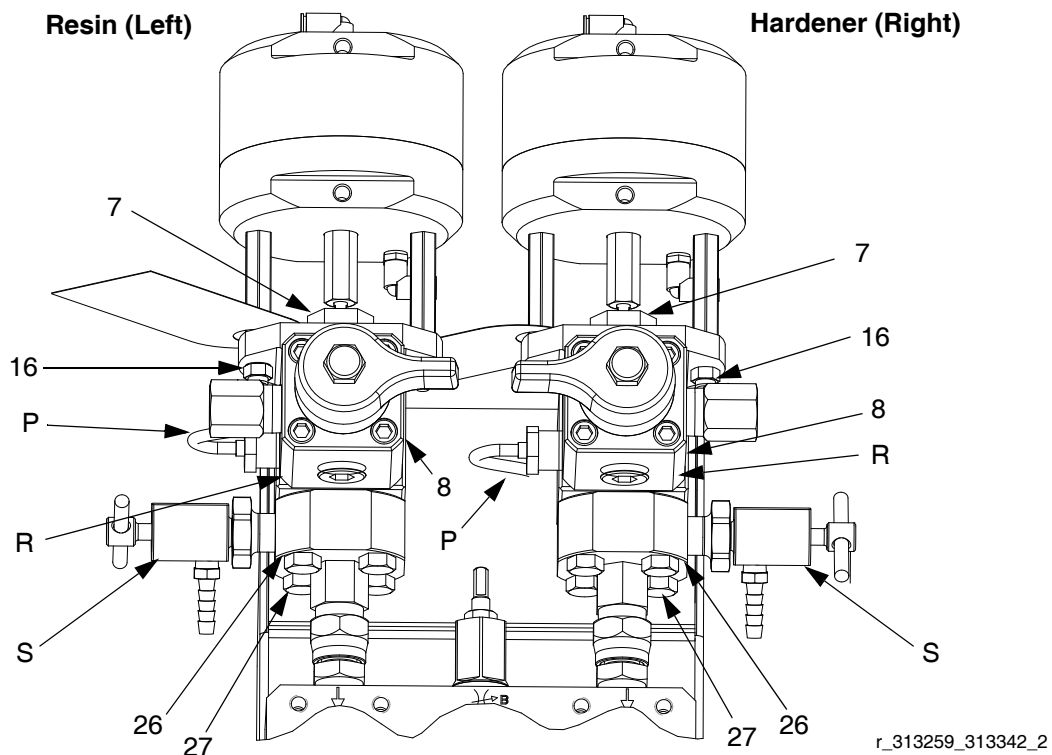

FIG. 1: Hardener and Resin Dosing Valve 255478 Orientation
2. *Resin dosing valve (left side):* Remove screws (27) and turn seat housing (26) 90° so that the side ports are facing to the left for the sampling valve (S) and to the rear for the temperature sensor (not shown). See FIG. 1.
3. *Hardener dosing valve (right side):* If necessary, remove screws (27) turn seat housing (26) 90° so